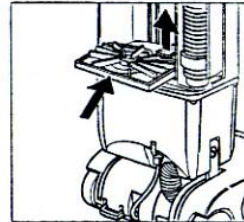

Figure 8
5.2 Replacing the safety filter <Figure 8>